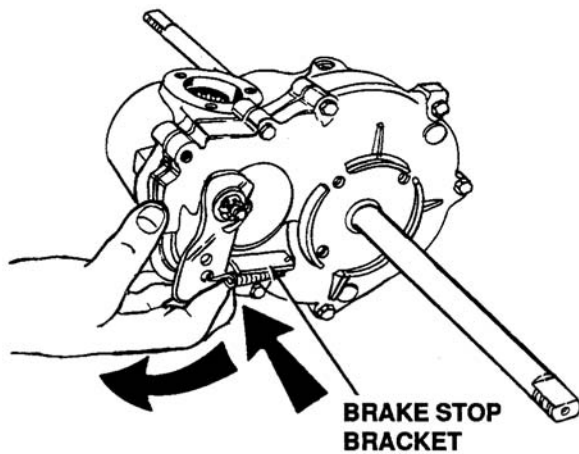

Figure 5-6. Location of Stop Bracket
6. Check the brake spring and brake cam adjustment. The brake cam should have 1/4 to 3/8 inch gap between brake stop bracket and brake cam as shown in Figure 5-6.